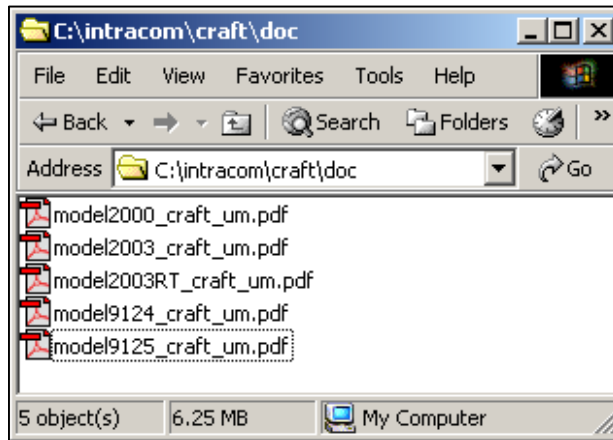

Figure 5 – Documents folder
- 6** To open the user manual, double click **model9125_craft_um.pdf** in the **doc** folder (Figure 5).